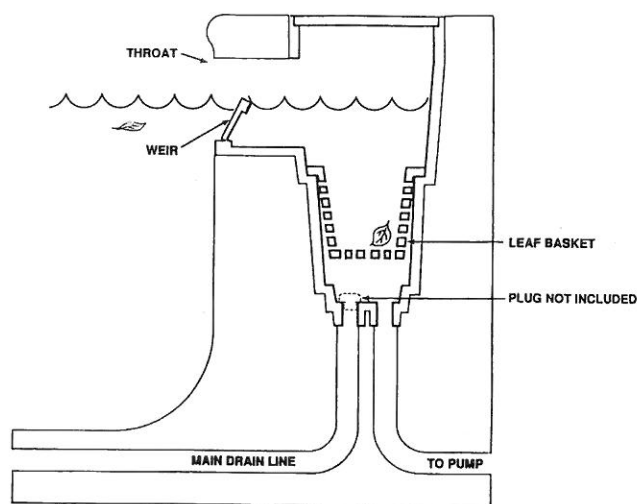

Fig. 1
- 3** Turn off all other skimmers and other suction lines — such as the main drain or "deep suction" fitting. If there is a main drain port in the skimmer, it will be necessary to plug that port using an appropriate plug (see Fig. 1). If the skimmer has a control/diverter valve to regulate skimmer/main drain flow, the valve should be turned to the full skim position.